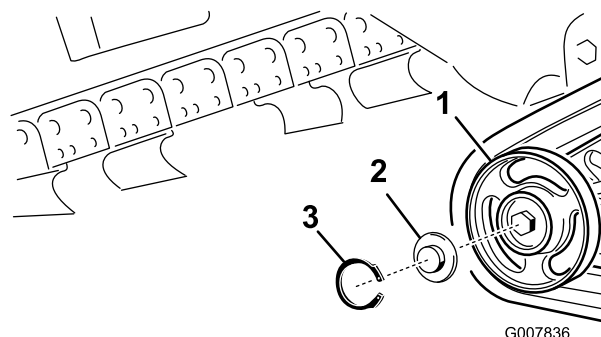

Figure 52
2. Remove the snap ring and cap from a road wheel (Figure 52).
3. Check the grease under the cap and around the gasket (Figure 52). If it is dirty, gritty, or depleted, clean out all of the grease, replace the gasket, and add new grease.
5. Place the greased road wheel cap over the bolt head (Figure 52).
6. Secure the road wheel cap with the snap ring (Figure 52).